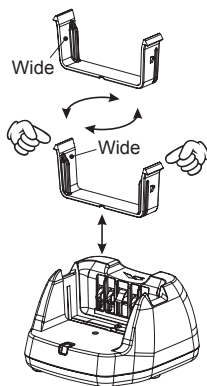

FIGURE 1
- ❑ Referring to Figure 1, adjust the direction of the Battery Holder of the **CD-49** Desktop Charger in accordance with the battery pack being charged; Push in both sides of the Battery Holder while pulling up on the Battery Holder to remove it from the charger base, select the correct direction of the Battery Holder for the battery being charged, then replace the Battery Holder by pressing down on both sides of the Battery Holder, if necessary.